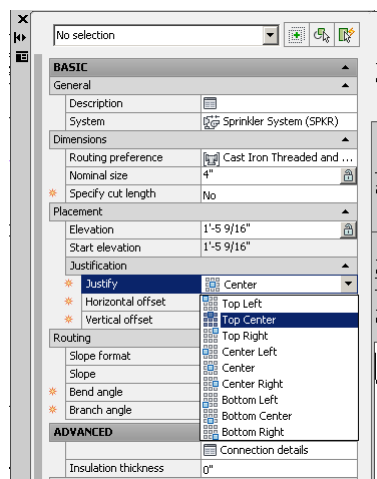

Figure 6.39
16. On the Properties palette, set Justify to **Top Center** (see Figure 6.39).